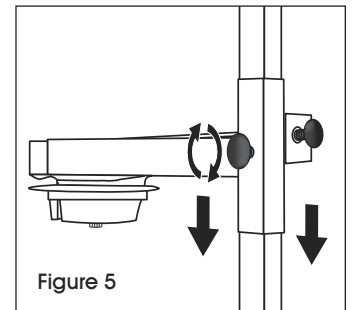

Figure 5
2. Tighten the lock knob on head assembly. When film is installed, position head assembly 4" above film. (See Figure 5)